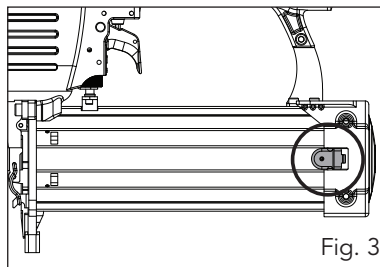

Fig. 3
**WARNING!** Always connect the tool to pressured air supply before loading fasteners. Only use fasteners specified in the Specifications in this manual can be used. Keep the tool pointed away from yourself and others at all times. Do not load fasteners with the trigger (2) depressed.
1. Grip the handle (10) firmly with one hand and with the other hand press down on the cover latch (8) to release the magazine cover (6) (fig. 3).